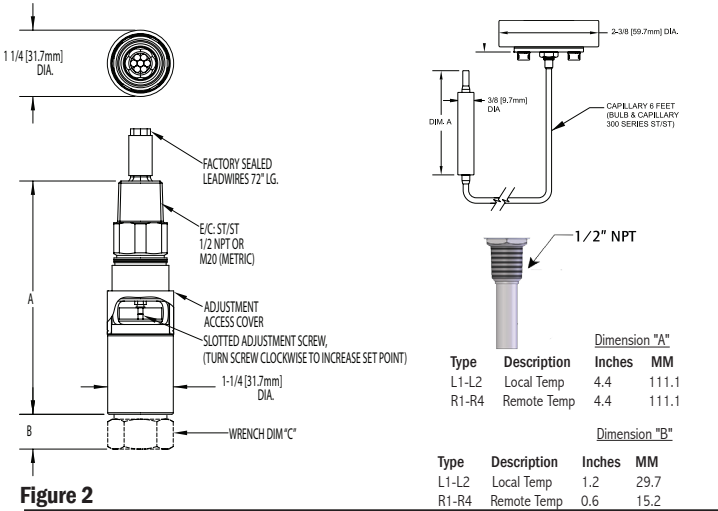

Figure 2
- 4. Insert screwdriver into adjustment slot and turn clockwise to **increase** setting or counter clockwise to **decrease** setting. (See Figure 2)